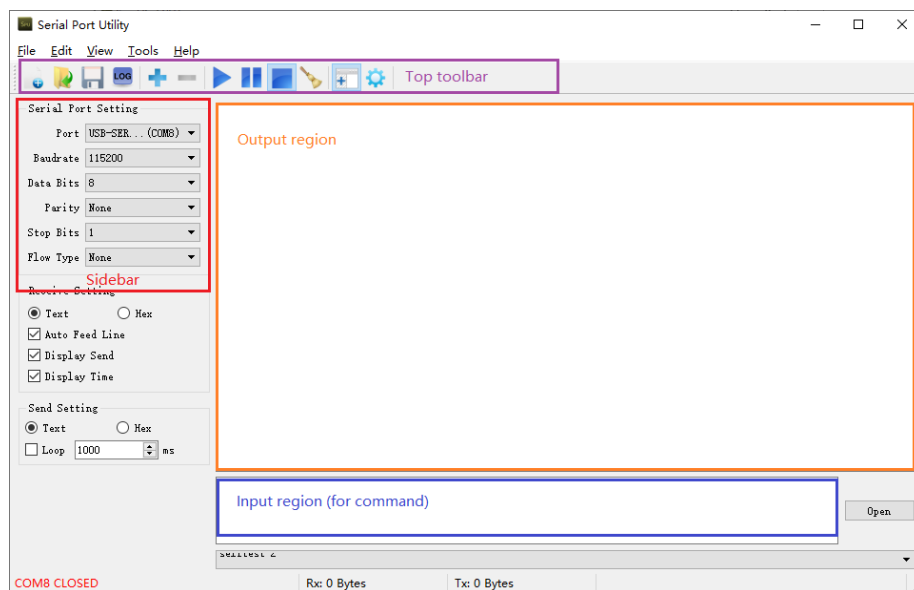

Figure 4-8 Overview of Serial Port Utility
- 4) The main window will show as Figure 4-8, it contains 4 function regions: top toolbar, left sidebar, output region and input region;